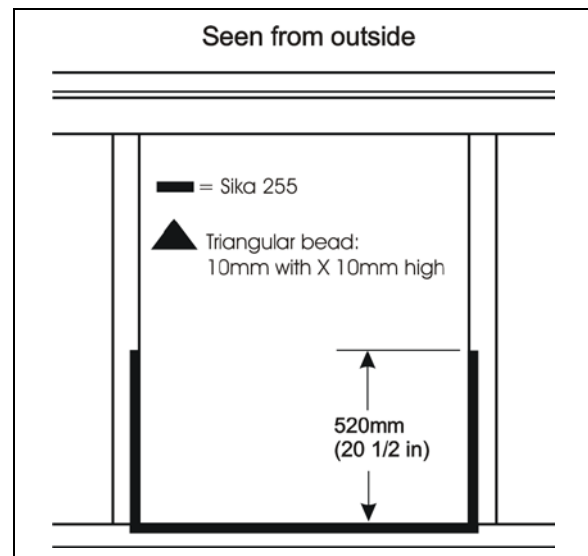

FIGURE 66 : AWNING WINDOW – SIKA 255 APPLICATION
- Apply Sika 255 as per FIGURE 66 (triangular bead: 10mm width X 10mm high).